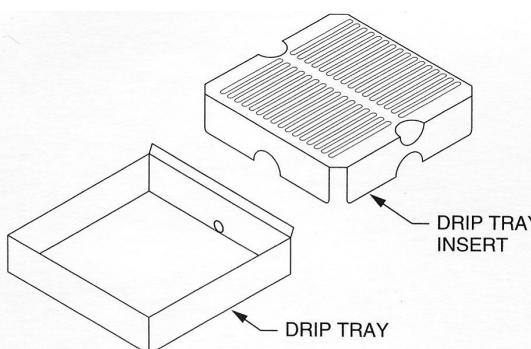

Fig. 26
- Install the drip tray and drip tray insert (Fig. 26).